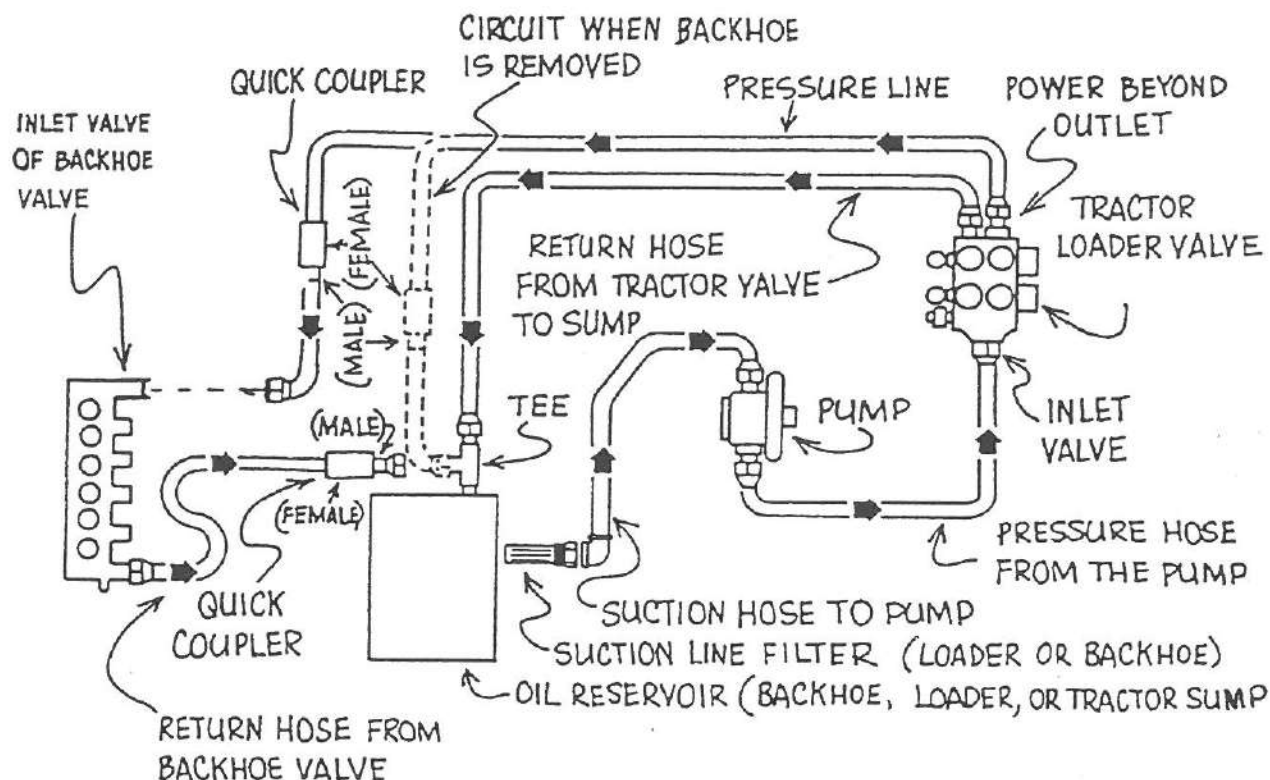
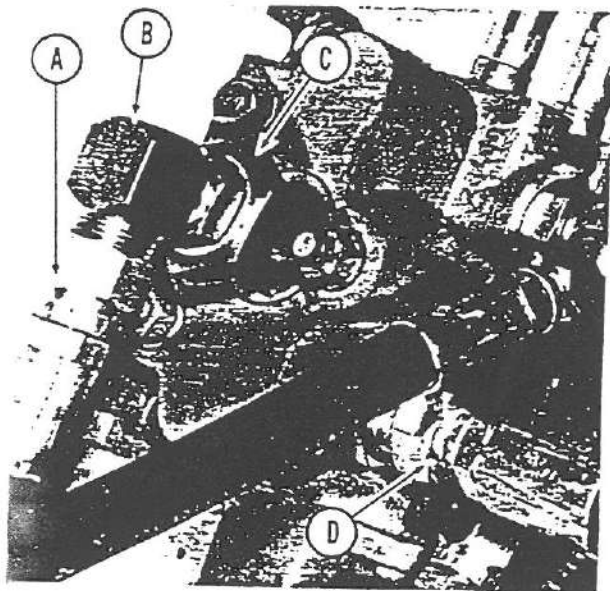
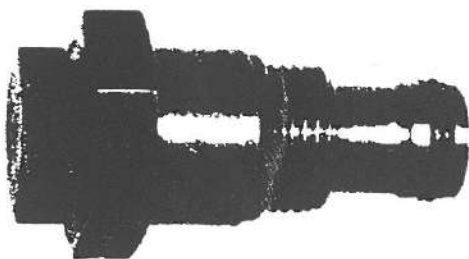
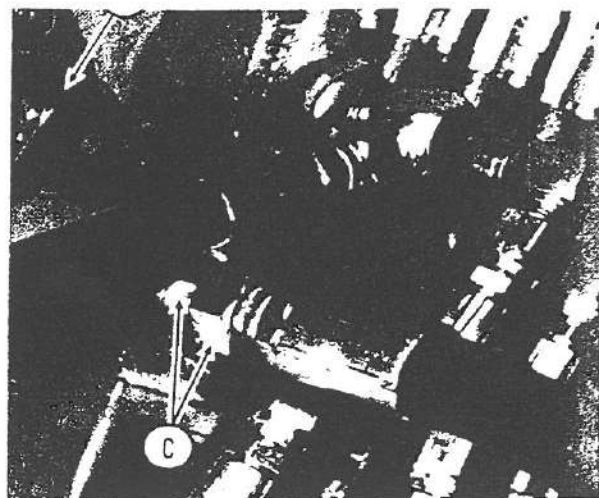

Figure 2 – Power Beyond Housing
Figure 10
Figure 12
Figure 13
- C. If you wish to run both a loader and a backhoe off of the same hydraulic system, make your connection as illustrated in Figure 2 – Power beyond Housing. Also, refer to the section of this manual entitled Power beyond Hydraulic Systems Figure 10. Since there are so many variations for this type of setup, we are showing only a generalized hosing scheme. If you have any questions concerning the specifics for your situation, please contact the factory before attempting operation.
- C. If you wish to run both a loader and a backhoe off of the same hydraulic system, make your connection as illustrated in Figure 2 – Power Beyond Housing
12. Remove the pin from Point A of figure 2.
23. Once an appropriate set of holes is found, secure the backhoe to the top link using the two (2) 7/8" X 2-1/2" bolts and hardware that were removed in Step 20.
24. Remove the pin on the dipper stick Point B of Figure 2. Position the dipper stick and bucket link in order to mount the bucket. Mount the bucket at Points B and C. Secure the bucket pin (B) with the 3/8" roll pin. Secure bucket link pin (C) with 5/16" roll pin.
- B. Install closed center sleeve in Figure 12 as seen at Point C. – Figure 10. Remove O-Ring plug from sleeve
- D. Install a high-pressure hose going to the inlet of the loader valve. This hose is not furnished (Point A – Figure 10).
- E. Remove O-ring plug from front of the outlet section of valve (Point D –Figure 10) and replace with 850BX8X10 adapter (KELLEY Part #SFT10079). Connect return hydraulic line that was removed from point A to this adapter. Connect the other end of the return hose to the tractor oil sump.
- F. Refer to Figure 2 for housing.
- A. Remove return hose and O'ring ell at outlet end of valve, Point B of Figure 13.
- B. Replace with closed center sleeve (Part #785022- Figure 12) as shown in Point B of Figure 13.
- C. Remove the O-Ring plug from the front of outlet section of the valve Point C of Figure 13 and replace with a 850B-8X10 adapter (Part #SFT10079). Connect return line to the adapter and return to oil sump of the tractor.